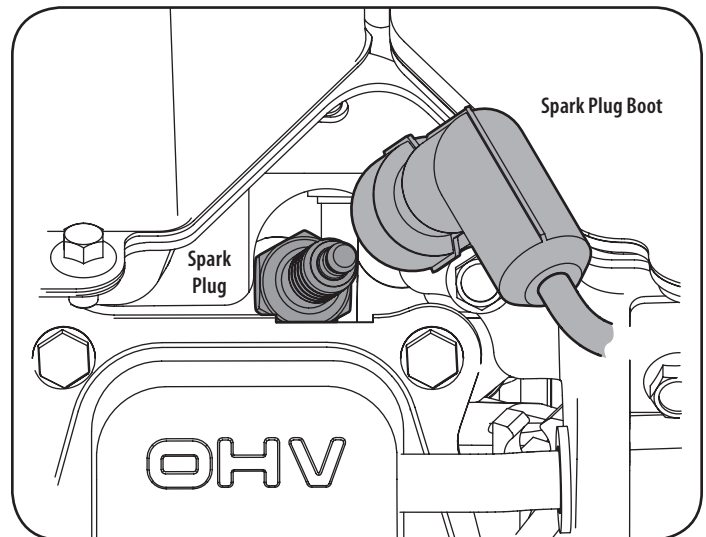

Figure 55
1. Remove the spark plug boot and use a spark plug wrench to remove the plug. See Figure 55.